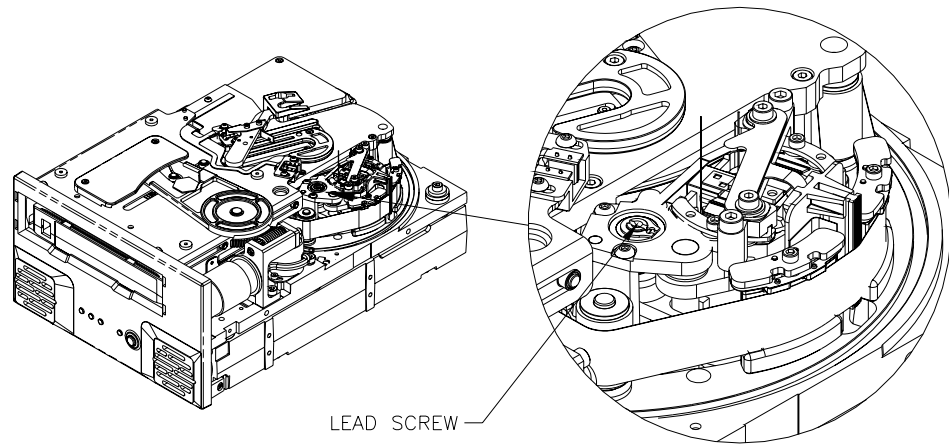

Figure 19. Diagram of Viper 200 showing lead screw (tape threaded on take-up reel)
1. Make sure the head assembly is in the lowered position by turning the lead screw (shown in Figure 19) clockwise with the flat blade screwdriver. This is necessary to allow the load arm to clear the head assembly when it is moved back toward the cartridge.